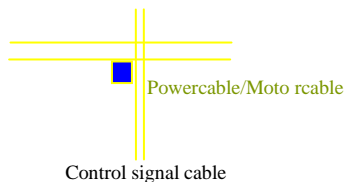

Fig. 3-16 Orthogonal wiring
- (1) Please try not to wire motor cable (from inverter to motor) in parallel with power cable and keep at least 30cm from each other .
- (2) Please try to arrange the motor cable through metal pipe or in metal wiring groove.
- (3) Please use shielded cables for control signal cable, and connect the shielding coat to PE terminal of inverter with proximal grounding to inverter.
- (4) PE grounding cable should be directly connected to the earth plate.
- (5) The control signal cable should not be in parallel with strong electricity cable (power cable/motor cable). They should not be bent together and should be kept away as least 20cm from each other. If cable crossing is inevitable, please make sure it is orthogonal as Fig.3-16
- (6) Please ground the control signal cable separately with power cable/motor cable.
- (7) Please don't connect other devices to inverter power input terminals (R/S/T).